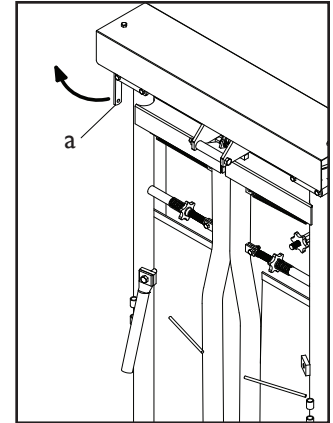
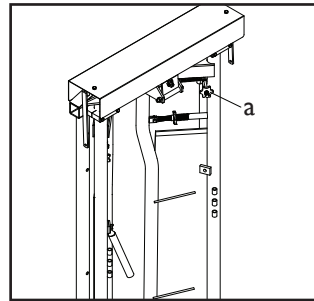

Figure 2: Control handle
Figure 3: Loading position
3. Adjusting the head opening can be done by pulling the control handle (a) on the side of the headgate forward as shown (Figure 2). This allows the doors to swing into the loading position (Figure 3).
4. With the doors in the loading position, turn the aluminum knobs (a) on each door to widen, or narrow the head opening (Figure 3). The opening should be wide enough to allow the animal's head to easily pass through the doors, but narrow enough that the animal's shoulders cannot. If the opening is too small for the animal's neck, the doors will not latch properly.
4. Pull the control handle (a) towards the front of the headgate as shown (Figure 2, page 4) and the doors will swing into the loading position for the next animal.